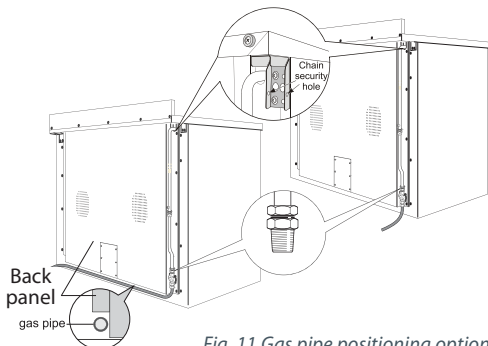

Fig. 11 Gas pipe positioning options
- The connection must be made at the rear of appliance; the pipe is not to cross the cooker. If the connection pipe does cross the cooker, it must be positioned under the cooker’s back panel, as shown (Fig.11).